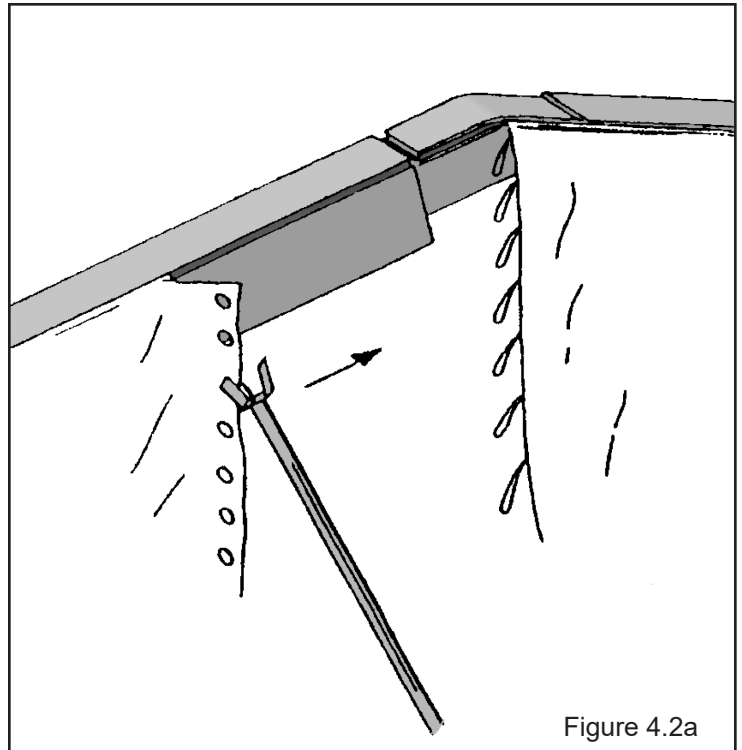

Figure 4.2a
- 4.2.2 Using the purlin fork, grab the ring with the end of the tool and push the kedar up through the channel until it is at the center of the ridge. See **figure 4.2a**. When both pieces of the gable end are installed in the channel and meet at the top, fasten the rings together with the carabiner and begin lacing from the peak down to the bottom of the gable end. Tie off the last loop. See **figure 4.2b**.